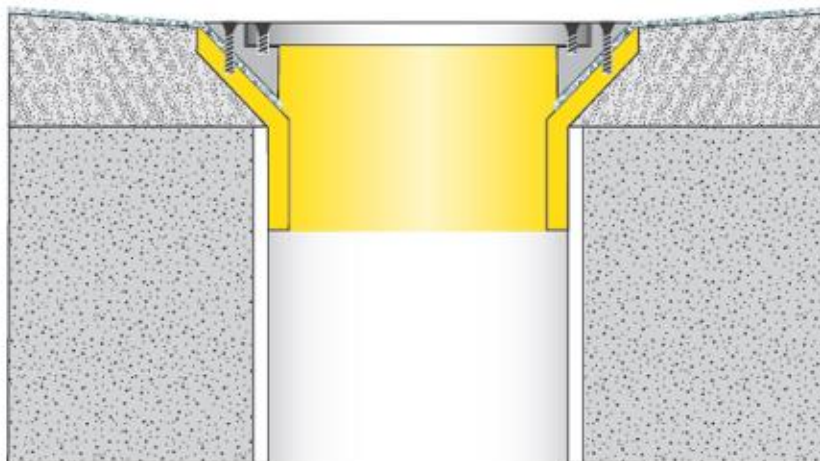

Figure 1
3. Immediately pour the entire unit of mixed adhesive onto the substrate. Do not leave mixed adhesive in cans as it shortens pot life and working time, and may generate excessive heat. Maximum pot life of S-240 is approximately 10 minutes, depending on temperature and humidity. We require a push in 'ring and clamp' floor drain fitted prior to the installation of the flooring (Figure 1). Safety Zone Sheet is to be installed into the pull down base with S-240 Epoxy Adhesive and clamped with the clamp ring and grate set.